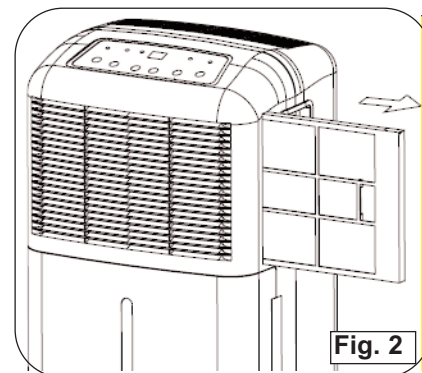

Fig. 2
1) Grasp the filter handle, and pull the filter out. The filter will slide out easily (see Fig. 2)